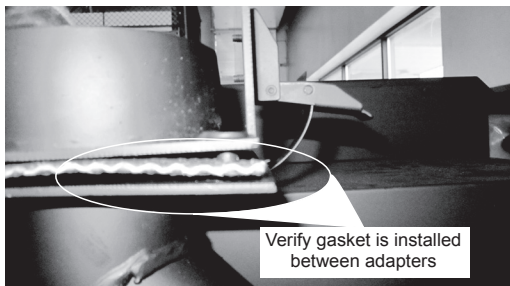

Figure 22.2
13. Attach appropriate the top vent adapter; either 3 inch or 4 inch depending on size of vent pipe using for your application. Attach this to the top of Rear Shroud Top Vent (**Figures 22.2 and 22.3**).